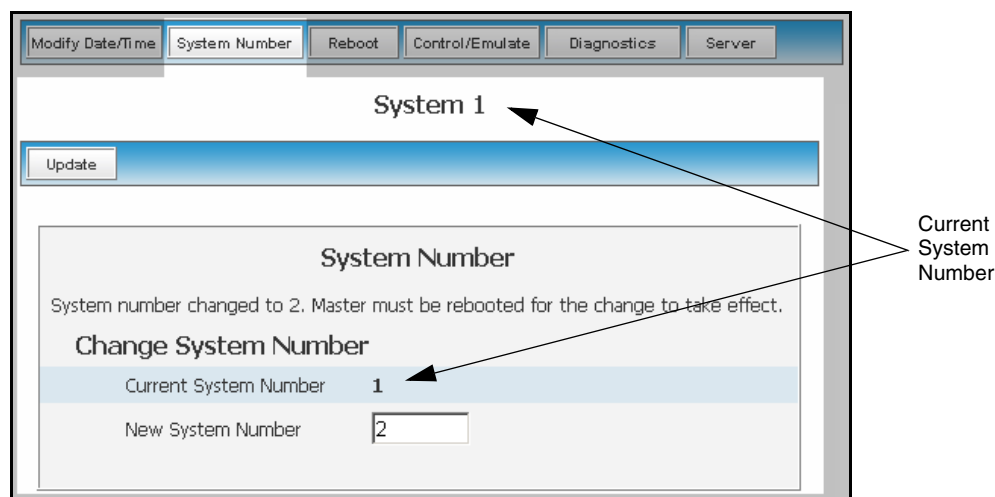

FIG. 51 Change System Number dialog
3. Click the **System Number** button to open the Change System Number dialog (FIG. 51). This dialog shows the current system number (read-only) on the target Master.